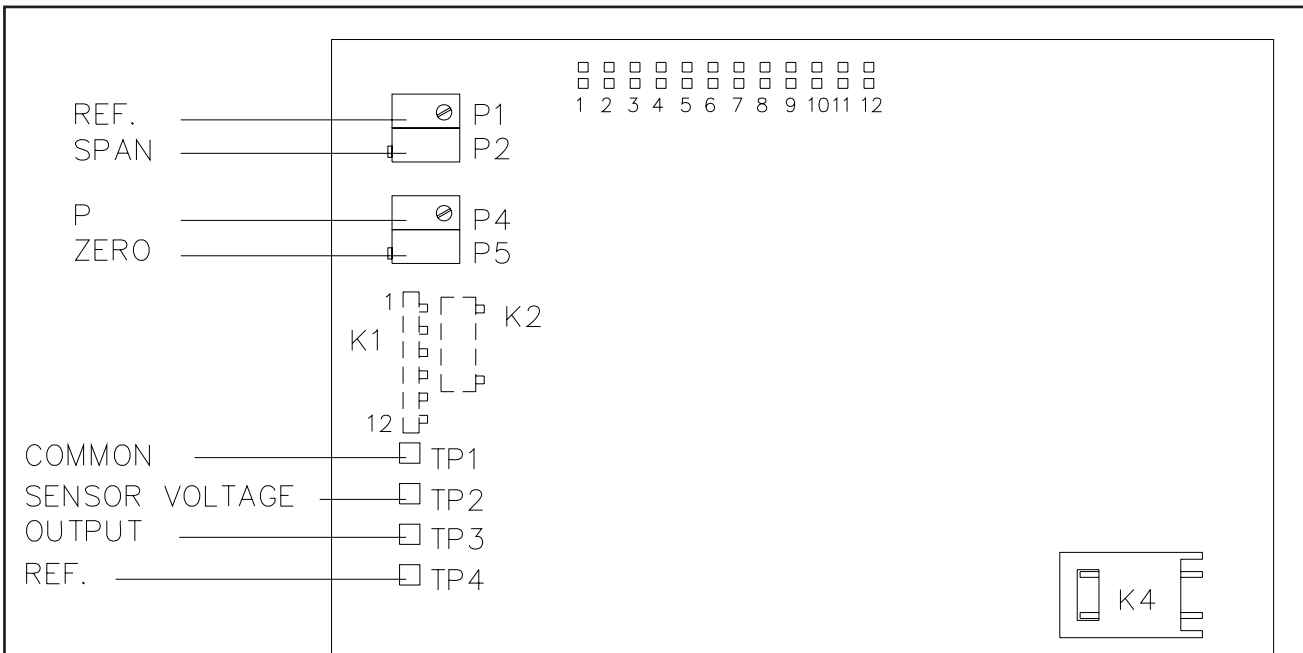

Figure 3-4 Jumper Settings for Flomega
**MODEL 5881/91****ELECTRONIC FEATURES (see figure 3-4)**